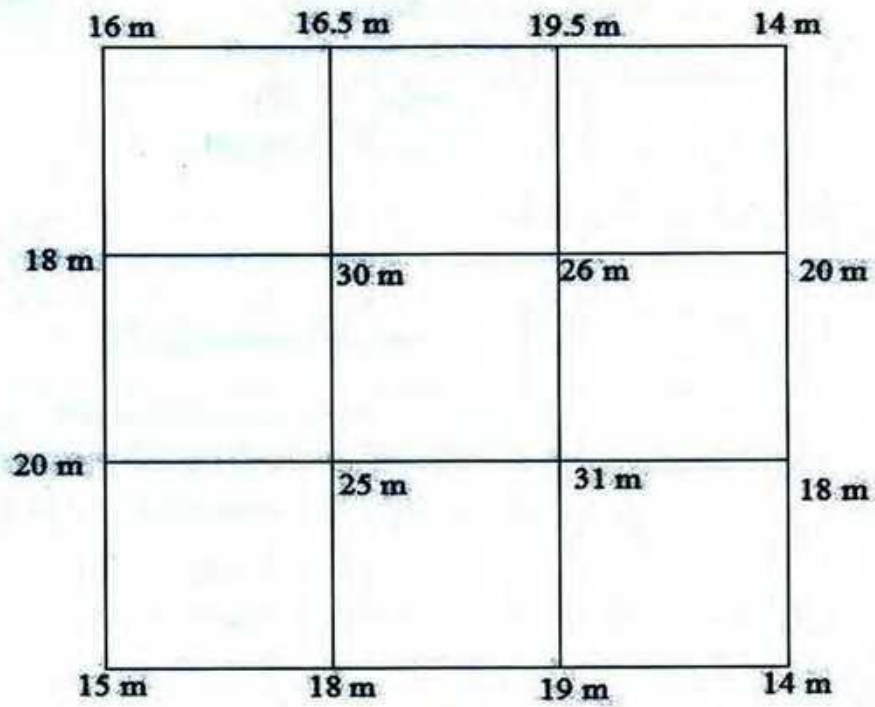

Figure 1(b)
1. (a) What are the characteristics of contour lines? (03)
(b) Draw contour lines of 20m, 25m and 28m for the grid shown in Figure 1(b). (09)